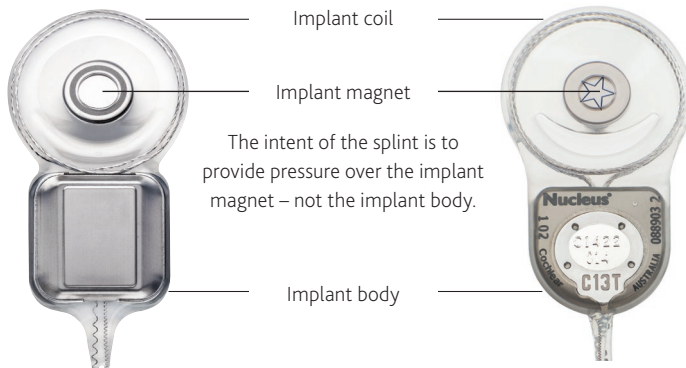

Figure 5: Location of the implant magnet on CI500 Series (left side) and CI24RE Series (right side) implants
- Touch - gently feel around the implant site to locate the position of the implant coil. The implant is comprised of two components; the round implant coil and the implant body. See *Figure 5* on page 63. The implant magnet will be at the centre of the implant coil.
1. Use a splint from the MRI Kit and centre it over the implant magnet site (as marked) against the skin. Ensure the splint is held in place over the implant magnet. See *Figure 5* below for the implant magnet location. You may need the assistance of another person to hold the splint in place while you bandage. Otherwise, use the supplied tape to maintain the splint position prior to bandaging.